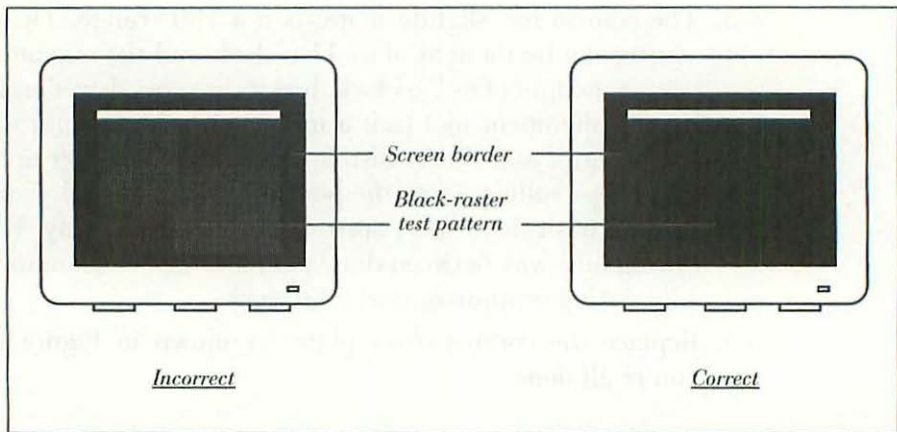

Figure 2-16 If the cut-off setting is too high, then the black-raster test pattern will be lighter than the screen border.
4. Dim the room lights and compare the shade of the screen border to the shade of the black-raster test pattern. If the cut-off setting is correct, there shouldn't be any difference. If the cut-off setting is too high, then the black-raster test pattern will be somewhat lighter than the screen border (dark gray, instead of black) as shown in Figure 2-16. If the cut-off setting is way too high, then the shade of the black-raster test pattern will be light gray.